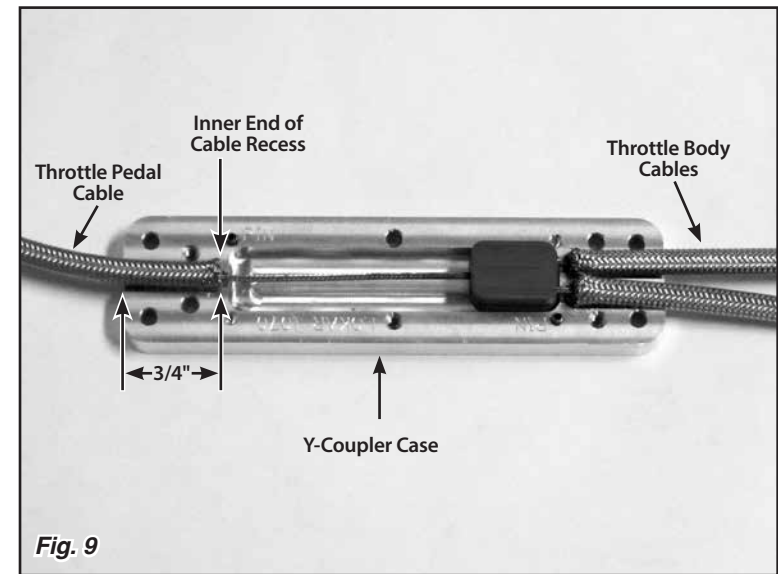

Fig. 9
Step 18: Disassemble the Y-coupler case by removing the six already-loosened #6-32 x 3/8" socket head bolts. Slide all three cable housings onto their respective inner wires. Position each cable housing so that the end of the cable housing is butted up against the inner end of the cable groove in the Y-coupler case. **Fig. 9** Reassemble the Y-coupler case with the flat head bolts, using a 5/64" Allen wrench.